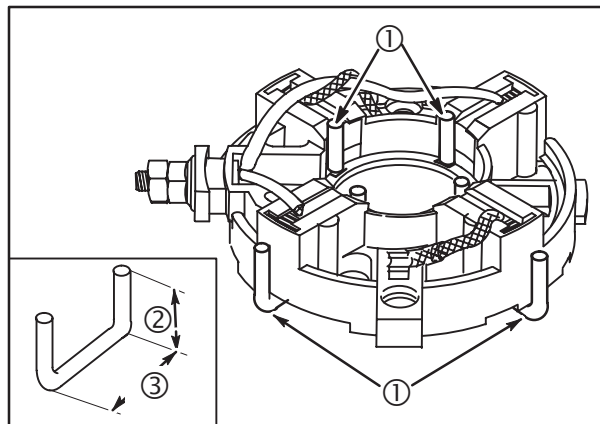

Fig. 22
End caps with radial compression type springs require 4 brush retainers (1) to hold brushes clear of armature commutator, **Fig. 22**.
Brush retainers can be made from Part #26634 control wire or similar material. The retainer is U shaped, with two legs $\frac{1}{2}$ " (13 mm) high (2), $\frac{3}{4}$ " (19 mm) long (3), **Fig. 22**, inset.